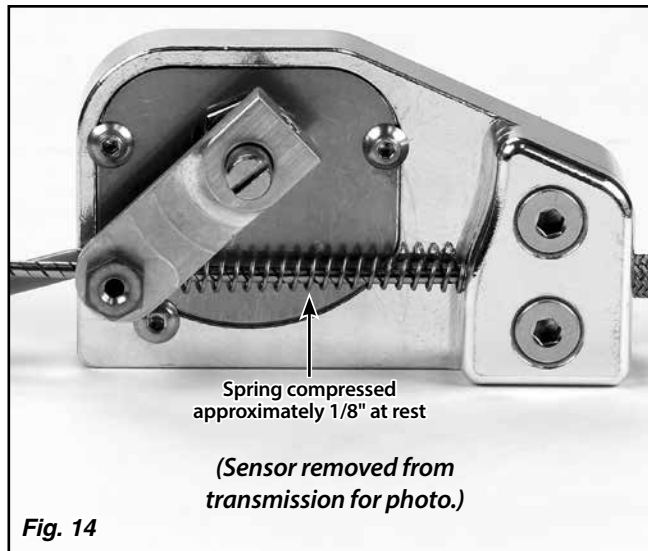

Fig. 14
- All applications with the trans arm pointing UP: Push the sensor arm up against the spring, so the spring is compressed approximately 1/8" at rest in Park. Fig. 14 While holding that position, tighten the set screw in the index cable stop on the sensor arm using a 1/16" Allen wrench.